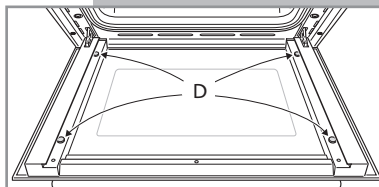

Fig. 47
- Check that the four rubber pads are in place (D in fig. 47).